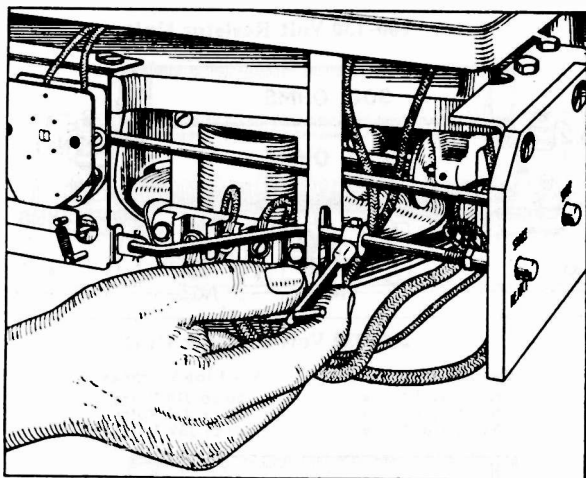

Fig. 16—Adjusting Reject Collar
- b. If the condition is not yet corrected, loosen the set screws in the collar as shown in Fig. 16, using a socket wrench such as part 53306, and set the collar approximately $\frac{1}{8}$ " away from the trip lever. Re-tighten the set screws.